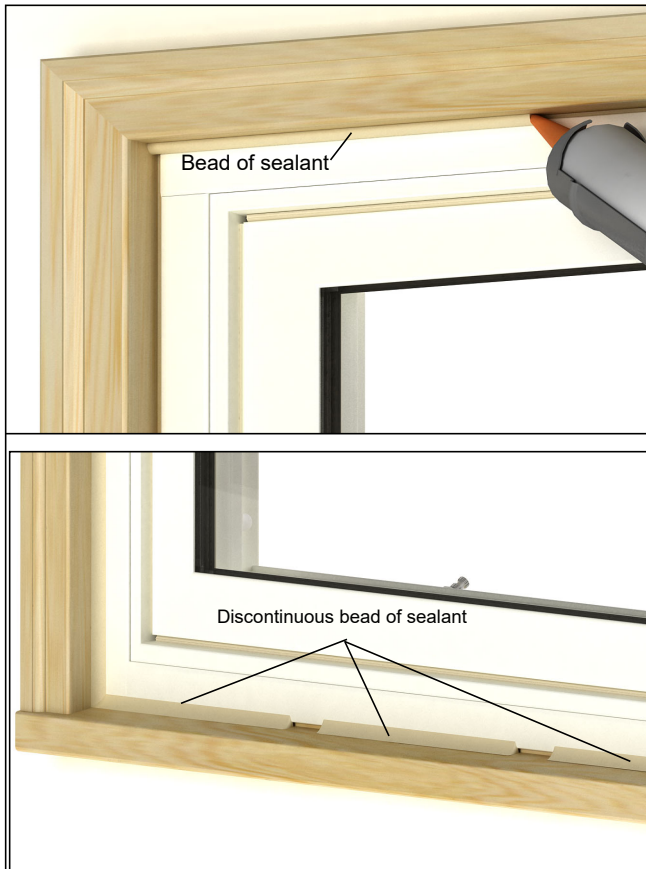

Figure 7
8. Finish the frame expander installation by placing a bead of sealant around the outside perimeter of the frame expander against the opening. Use a discontinuous bead at the sill to allow for water drainage. See figure 7.